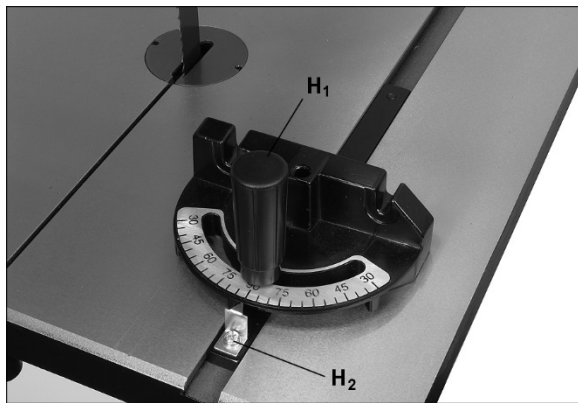

Figure 5-8
Refer to Figure 5-8.
3. If miter gauge is not square to blade, loosen lock knob (H₁, Figure 5-8) and adjust to proper setting. Tighten lock knob.